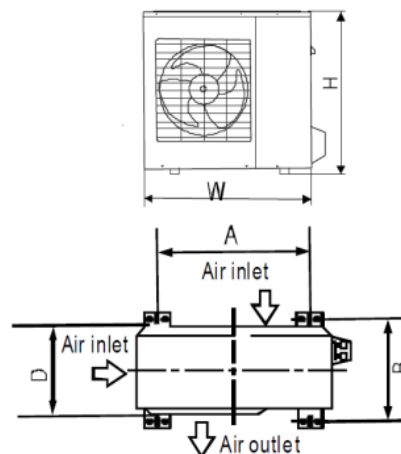

Figure 2
If an awning is built over the unit to prevent direct sunlight or rain, be careful that heat radiation from the condenser is not obstructed. There should not be any animals or plants near the unit which could be affected by hot air discharged. Ensure the clearances indicated by arrows, from the wall, ceiling, fence or other obstacles. See figure 2
1. Determine left and right side hole positions according to the installation plate. The hole center is obtained by measuring the distance as shown in the diagram figure 2.